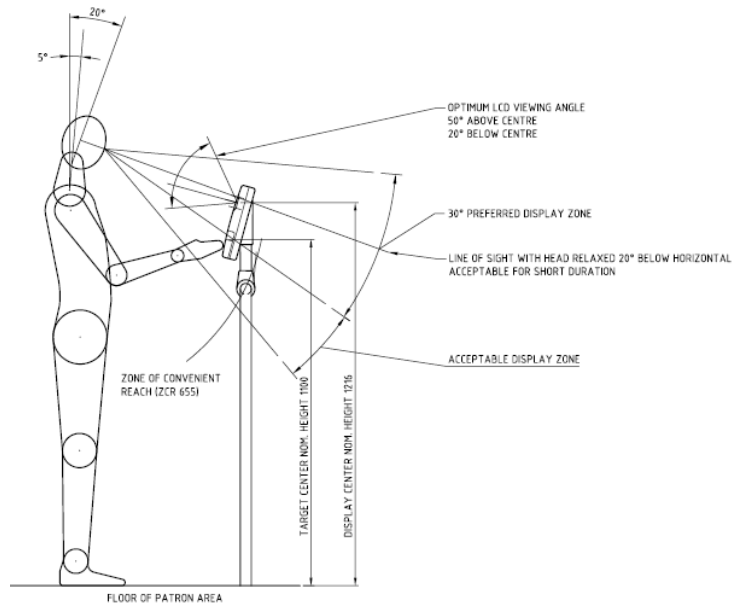

Figure 10: CP6100 positioning - height
- The CP6100 should be located within easy reach of Patrons as shown in Figure 10: CP6100 positioning.